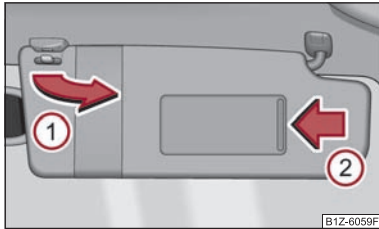

Fig. 42 Sun visor: swivelling out
You can pull the sun visor for the driver or front passenger out of the fixture and swivel it toward the door in the direction of the arrow ① ⇒ fig. 42.